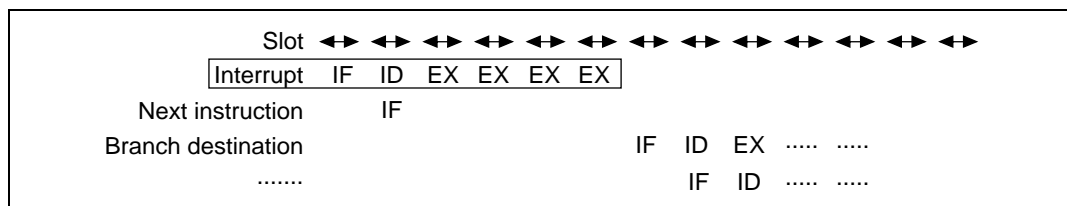

Figure 10.65 Address Error Exception Processing Pipeline
The address error is received during the ID stage of the instruction and everything after the ID stage is replaced by the address error exception processing sequence. The pipeline has six stages: IF, ID, EX, EX, EX, and EX (figure 10.65). Address error exception processing is not a delayed branch. In address error exception processing, an overrun fetch (IF) occurs. In branch destination instructions, the IF starts from the slot following the final EX in the address error exception processing.